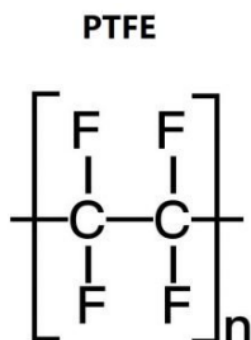

Figure Q3: Repeating unit of PTFE
3. (a) Polytetrafluoroethylene (PTFE) is a semi-crystalline fluoropolymer known for its chemical resistance and low friction. Its repeating unit is shown in Figure Q3.